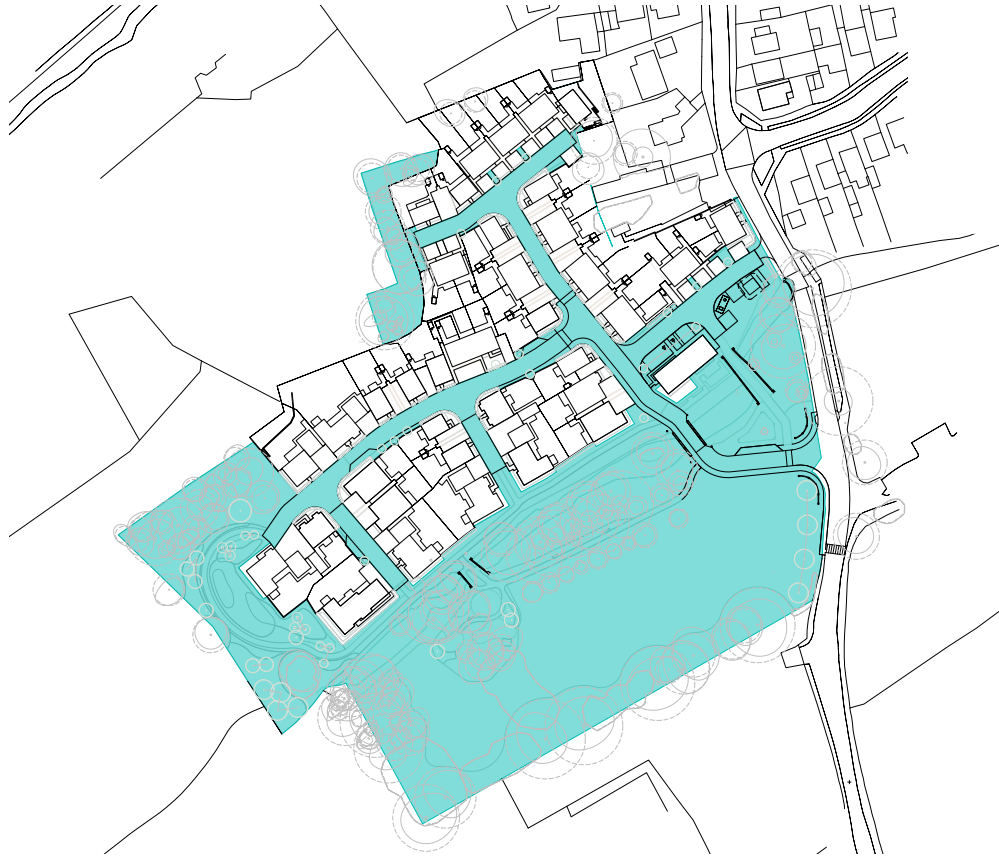

Figure 3 - Landscape areas encompassed within this maintenance and management plan
- 1.0.3 The **Management Areas and Responsibilities Plan** on page 9 shows the landscape areas which are covered by this Landscape Maintenance and Management Plan (Figure 3). These areas include existing vegetation and trees along with all new planting and other hard or soft landscape components outside of private gardens.